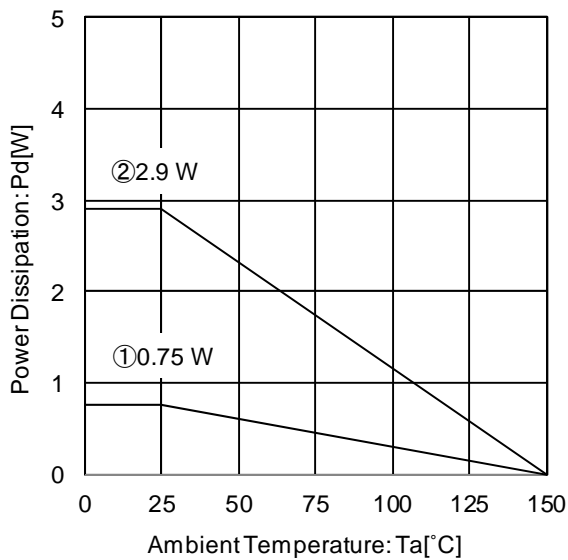

Figure 25. Package Data (HTSOP-J8)
Refer to the heat mitigation characteristics illustrated in Figure 25 to Figure 27 when using the IC in an environment of  $T_a \geq 25^\circ\text{C}$ . The characteristics of the IC are greatly influenced by the operating temperature, and it is necessary to operate under the maximum junction temperature  $T_{jmax}$ . Even if the ambient temperature  $T_a$  is at  $25^\circ\text{C}$  it is possible that the junction temperature  $T_j$  reaches high temperatures. Therefore, the IC should be operated within the power dissipation range.
At  $T_a=125^\circ\text{C}$  with Figure 25 ② condition, the calculation shows that ca 56.4mA of output current is possible at 10.2V potential difference across input and output.
At  $T_a=125^\circ\text{C}$  with Figure 25 ② condition, the calculation shows that ca 67.7mA of output current is possible at 8.5V potential difference across input and output.